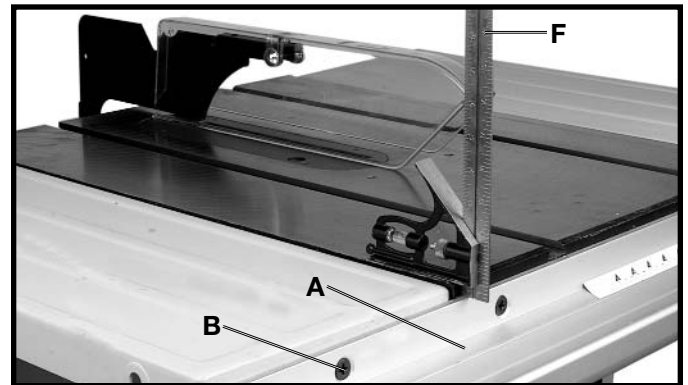

Fig. 41
2. Loosely fasten guide rail (A) Fig. 41, to the left and right extension wings. Align the hole (B) Fig. 41, in the left side of the guide rail with the hole on the left extension wing. Insert a 3/8-16x1-1/2" flat head screw through the hole (B) in the front guide rail (A) and the hole in the front of the left extension wing. Place a 3/8" flat washer and a 3/8 lockwasher onto the flat head screw. Thread a 3/8-16 hex nut onto the flat head screw. Repeat this process for the remaining hole in the guide rail and the right extension wing.
3. Before tightening the hardware holding the guide rail to the saw table, proceed as follows: Beginning at the two sides of the saw table and using an adjustable square (F) Fig. 41, or a ruler, check to make certain the guide rail (A) is parallel with the saw table and extension wings. Tighten all guide rail mounting hardware.